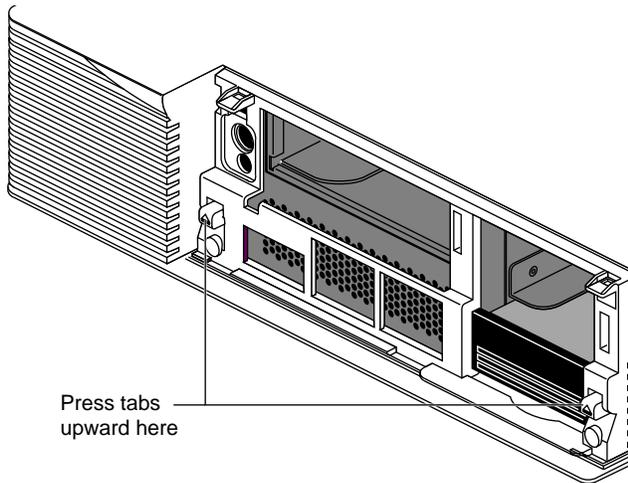

Figure 2-5 Releasing the Top Cover
- Press up on the tabs on each side of the drive openings as shown in Figure 2-5.